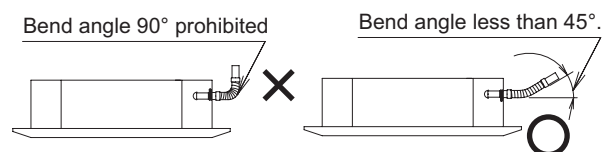

Fig. 2-37
- (3) Limitations of Drain Hose Connection
- Do not bend the supplied drain hose 90° or more. Bend it less than 45°. (Fig. 2-37)